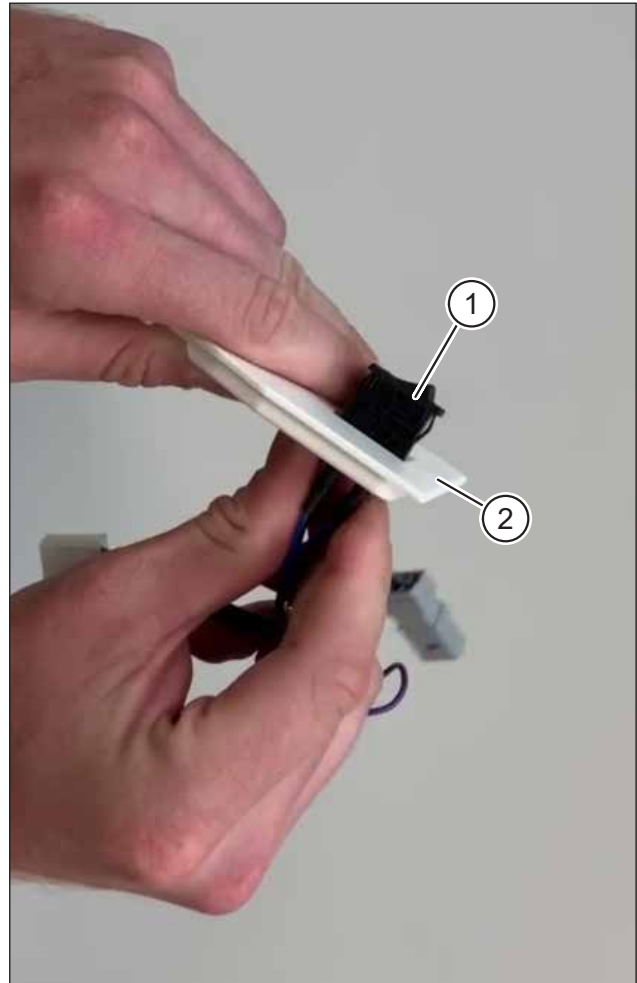

Fig. 10: Detach switch from electronics compartment cover
- ▶ Press the two retaining tabs together on the back of the mains switch (item 1 in Fig. 10).
- ▶ Slide the switch with the cable harness forward out of the electronics compartment cover (item 2 in Fig. 10).